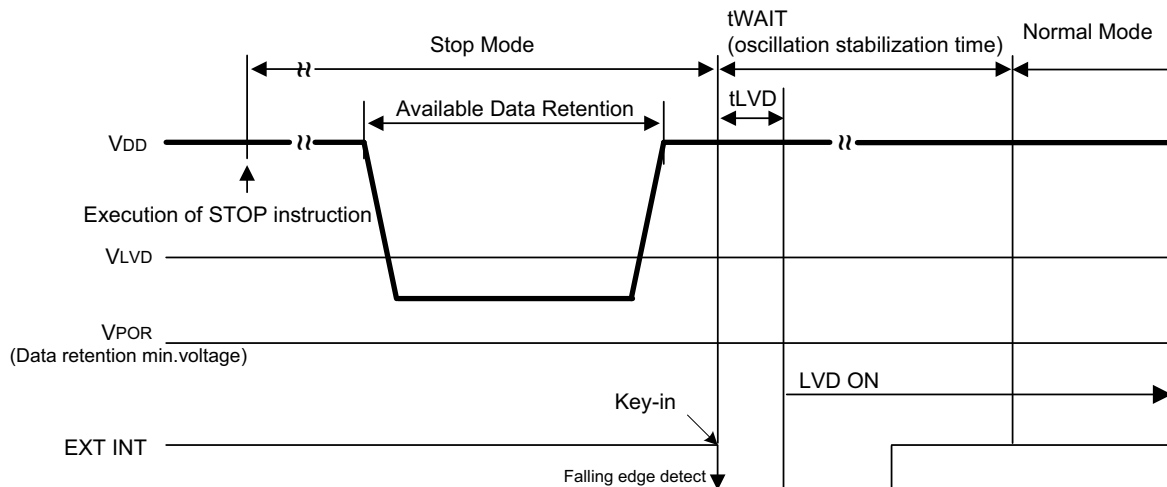
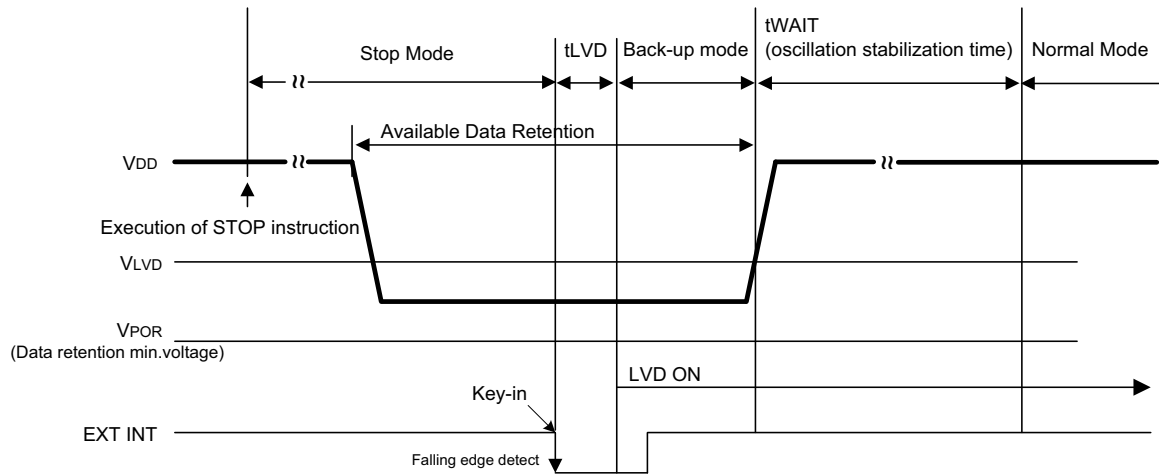

Figure 93. Stop Mode to Normal Mode Timing Diagram, #1 of 2
Figure 94. Stop Mode to Normal Mode Timing Diagram, #2 of 2
- Stop Mode to Normal Mode Timing Diagrams – see Figure 93 on page 303 and Figure 94 on page 304